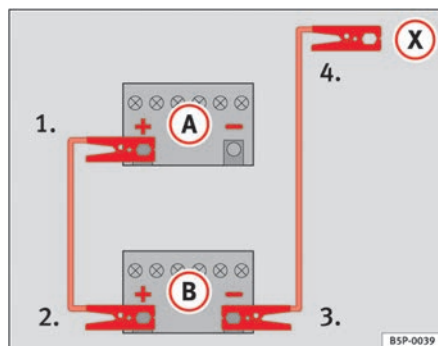

Fig. 162 How to connect the jump leads
In ⇒ fig. 162 (A) the flat battery is represented and in (B) the charged battery is represented.
1. Connect one end of the red jump lead to the positive ⇒ fig. 162 (+) terminal of the vehicle with the flat battery ⇒ ⚠.
4. Connect the other end of the black jump lead (X) to a solid metal component which is bolted on to the engine block, or onto the engine block itself of the vehicle with the flat battery. Do not connect it to a point near the battery ⇒ ⚠.